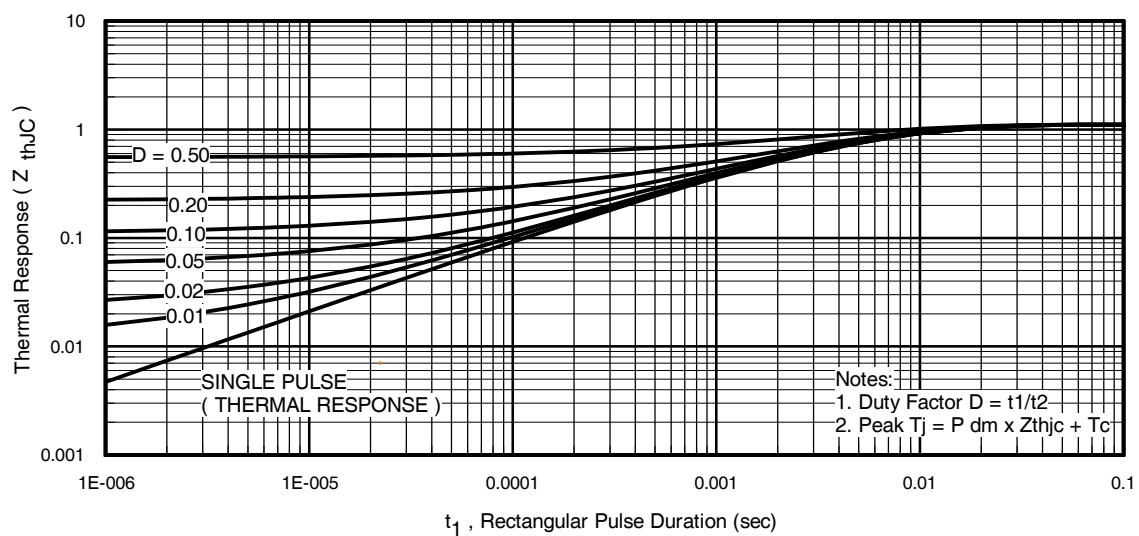
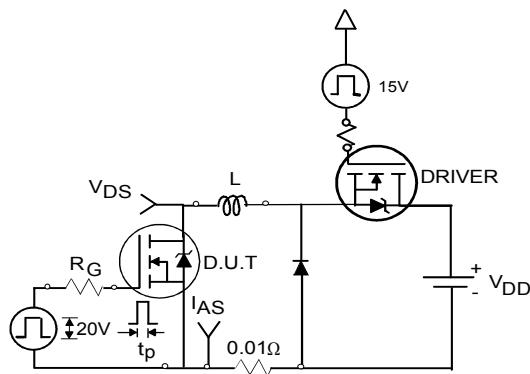

Fig 11. Maximum Effective Transient Thermal Impedance, Junction-to-Case
Fig 12a. Unclamped Inductive Test Circuit
- ① Repetitive rating; pulse width limited by max. junction temperature. (See fig. 11)
- ② Limited by $T_{J\max}$, starting $T_J = 25^\circ\text{C}$, $L = 0.05\text{mH}$, $R_G = 25\Omega$, $I_{AS} = 75\text{A}$, $V_{GS} = 10\text{V}$. Part not recommended for use above this value.
- ③ Pulse width $\leq 1.0\text{ms}$; duty cycle $\leq 2\%$.
- ④ $C_{oss \text{ eff.}}$ is a fixed capacitance that gives the same charging time as C_{oss} while V_{DS} is rising from 0 to 80% V_{DSS} .
- ⑤ Limited by $T_{J\max}$, see Fig.12a, 12b, 15, 16 for typical repetitive avalanche performance.
- ⑥ This value determined from sample failure population, starting $T_J = 25^\circ\text{C}$, $L = 0.05\text{mH}$, $R_G = 25\Omega$, $I_{AS} = 75\text{A}$, $V_{GS} = 10\text{V}$.
- ⑦ This is only applied to TO-220AB package.
- ⑧ When mounted on 1" square PCB (FR-4 or G-10 Material). For recommended footprint and soldering techniques refer to application note #AN-994
- ⑨ R_θ is measured at T_J approximately 90°C .
3. Equation below based on circuit and waveforms shown in Figures 12a, 12b.